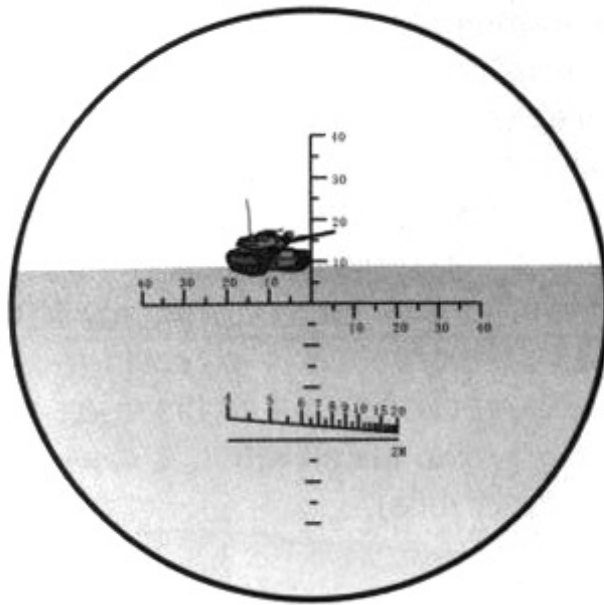

Fig. 31
A. When the azimuth of "Object" measured is lower than the reticle range ( $\pm 40$  mils), measure the azimuth by fitting "Object" with the reticle or the middle reticle. For an example shown in Fig. 31, the azimuth of "Tank" as "Object" is measured to be 20 mils (20-00 mils).